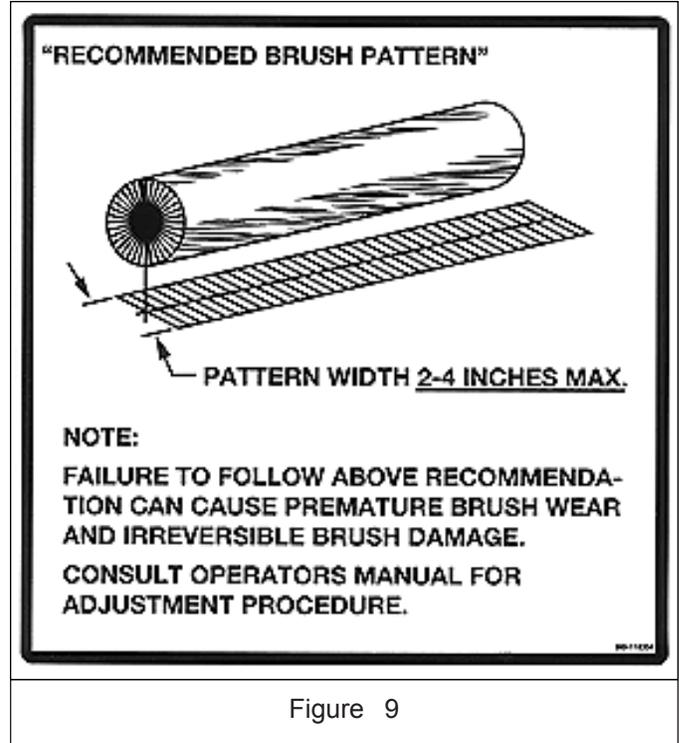

Figure 9
2. Stop the brush and back the unit away from the swept area. The "cleaned" (contact patch) should be 2"-4" wide (front-to-rear) for the entire length (side-to-side) of the broom. See Figure 9.